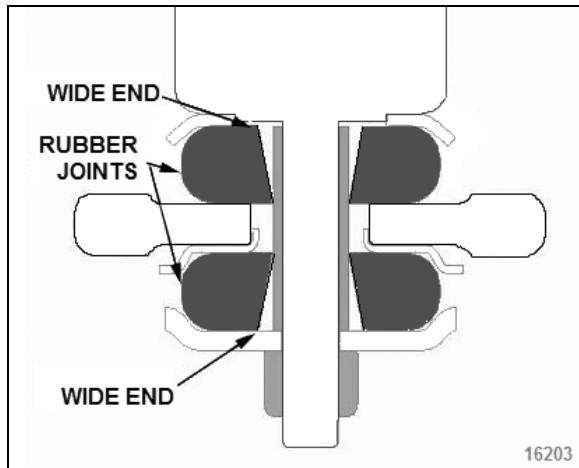

FIGURE 20: LOWER SHOCK MOUNTING BUSHINGS
- On the lower mounting, take care to install the rubber joints with the wide end of the tapered hole as shown in Figure 20.